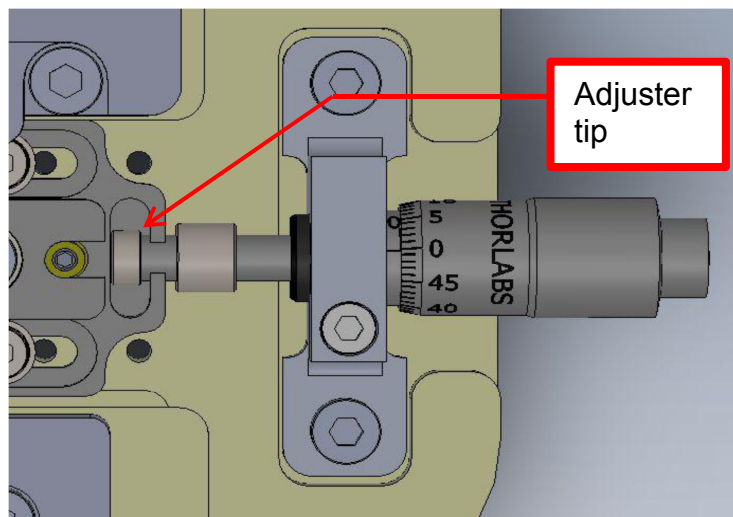

Figure 12 Mode Hop Adjuster Tip
Step 13: In the body of the pivot bracket, there is a flexure (hinge) that adjusts the tilt of the grating (Figure 12). As you adjust the fine setscrew, the coupling efficiency for the diffracted light back into the gain chip will vary. Back off the motor and with a finger on the end of the grating arm, swing the arm back and forth while observing the output from the fiber (on a sensor card or equivalent) – also while adjusting the fine setscrew. At some point a large increase in output intensity should indicate lasing action. If this is not observed then it may simply mean that we are adjusting in the wrong direction and the flexure hinge needs to be closed slightly rather than opened. In this case, slacken off the fine set screw and swing the grating arm again while this time adjusting the M4 ‘tensioning’ bolt. When very close to the optimal flexure angle, an alternating sequence of optimizing the laser intensity by adjusting the fine set screw and then tensioning the M4 bolt should lead to a strong output, coupled with a setting for good overall stability. In this alternating sequence adjustment of the fine setscrew should always be able to counteract the effect of the last adjustment of the tensioning bolt; the adjustment should stop just short of the point where this sequence starts to falter, as this is a sign that the tensioning is too much, and that slight distortion of the pivot bracket itself is beginning to occur.